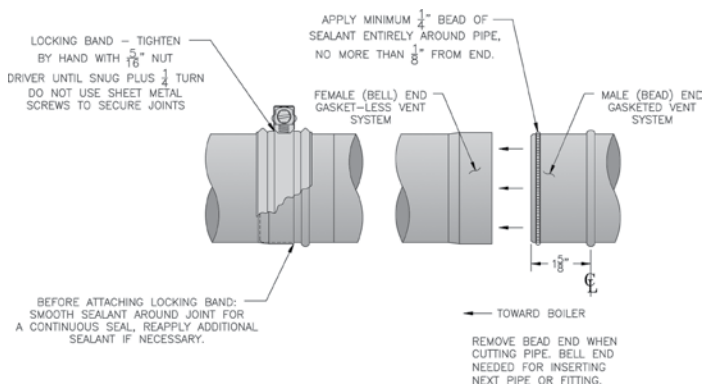

Figure 4D: Gasket-Less Female and Gasketed Male Vent Joint Detail
2. Procedure for joining the female end of Gasket-Less Vent with the male end of Gasketed Vent. See Figure 4D.